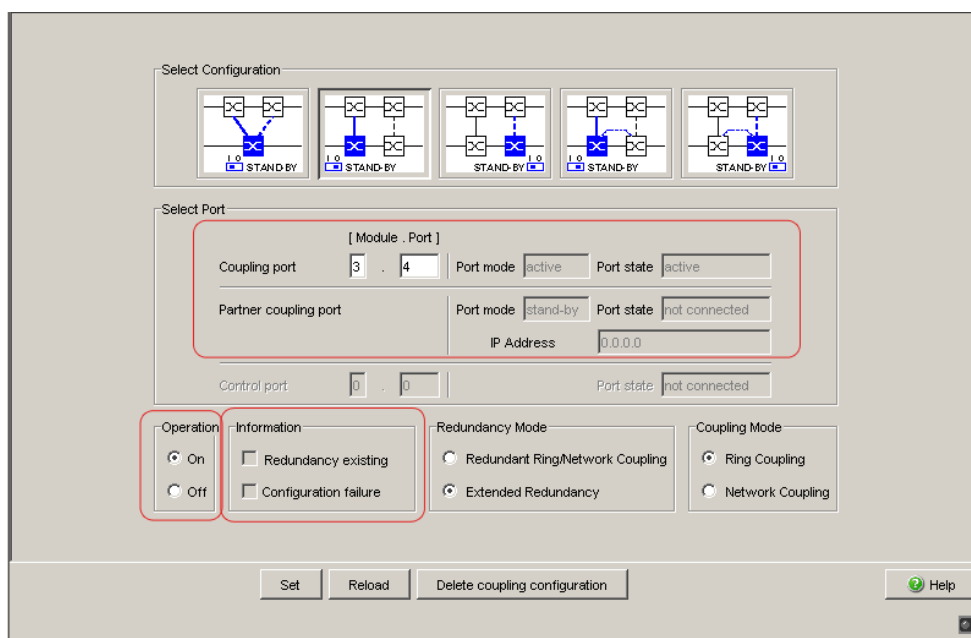

Figure 28: Selecting the port and enabling/disabling operation
- Select the coupling port (see fig. 28), (see table 11).
- Activate the function in the “Operation” frame (see fig. 28).
- Activate the function in the "Operation" frame (see fig. 28).
The displays in the “Select port” frame mean (see fig. 28):
□ Activate the function in the “Operation” frame (see fig. 28).